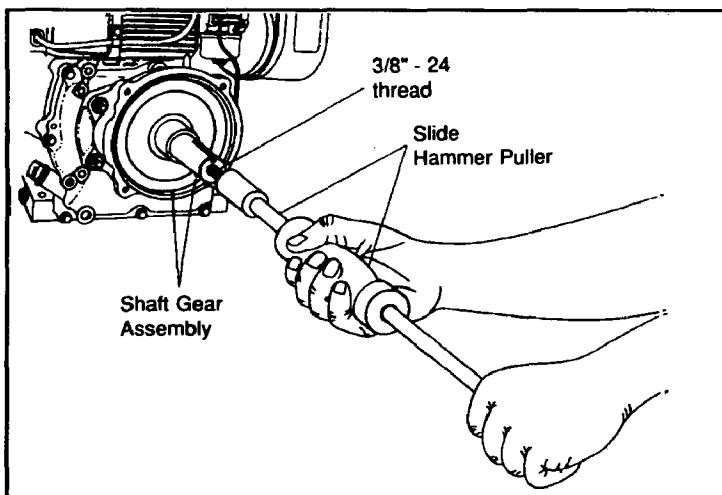

Figure 2
3. With reference to figure 2 (below) use a slide hammer-type puller, or similar tool, screwed into the 3/8 - 24 tap in end of take-off shaft, to loosen and remove shaft gear assembly from housing.